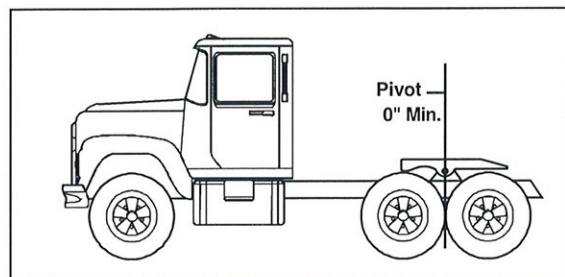

Fig. 3
6. When the fifth wheel is properly installed, the fifth wheel pivot point must always be positioned on or ahead of the tractor rear axle or bogie centerline. (See Fig. 3.) For assistance in determining the proper fifth wheel location, contact the tractor manufacturer. In all cases, the location must be in compliance with DOT regulations.
2. The mounting angles must be located on the tractor frame such that when the fifth wheel is moved to the rear-most position, the fifth wheel pivot is located on or in front of the rear axle or bogie centerline. (See Fig. 3.)